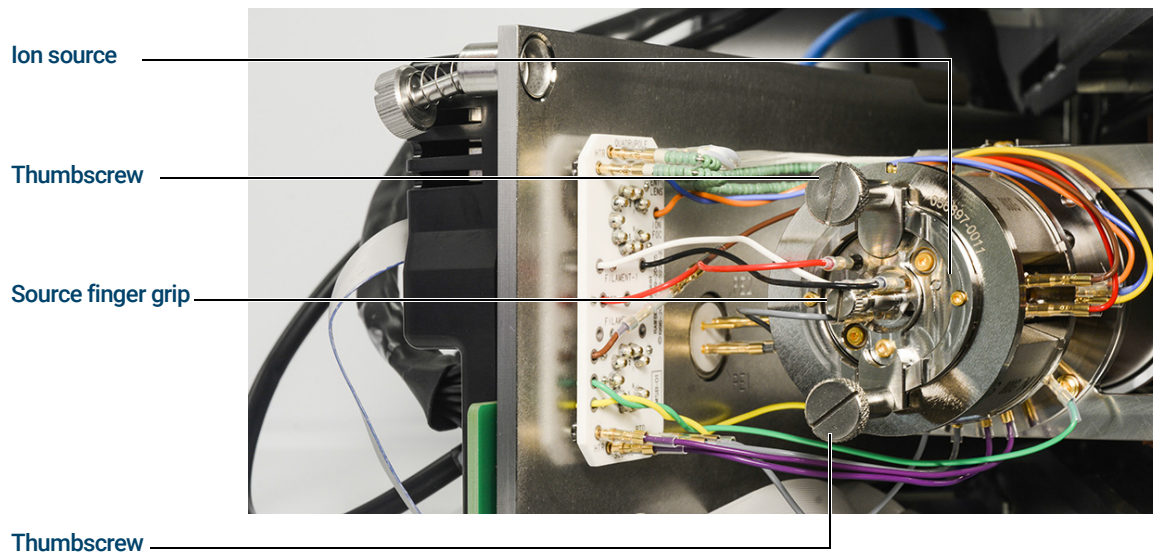

Figure 32. Axial CI ion source before removal
- 3 Remove the two large thumbscrews that hold the ion source in place. (See **Figure 32**, “Axial CI ion source before removal,” on page 112.)